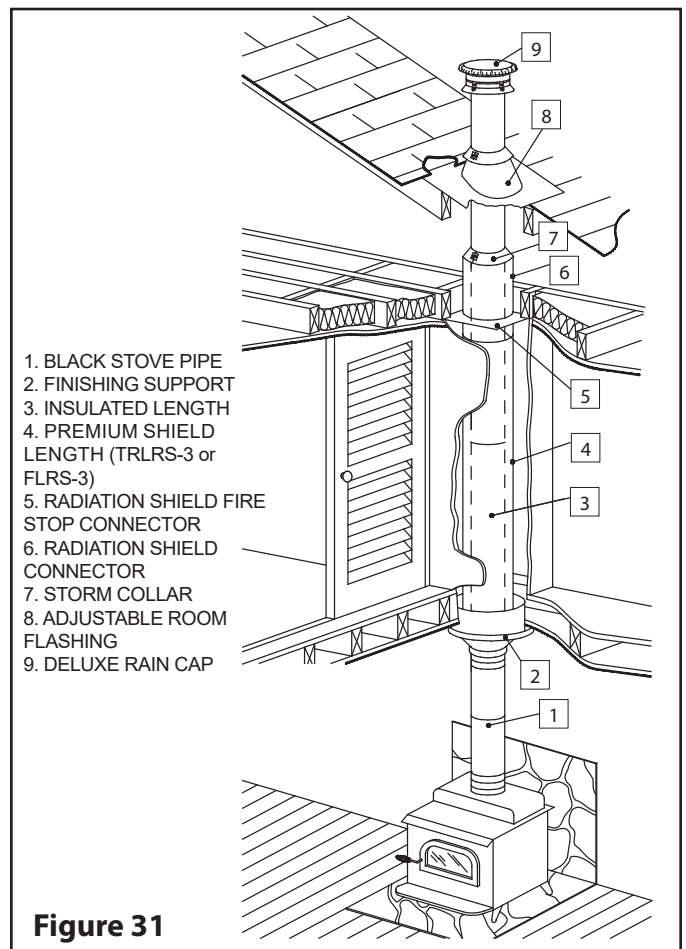

Figure 31
Step 5B. **FOR ENCLOSED INSTALLATION ON WOOD OR COAL BURNING APPLIANCE (6", 7", 8" dia. only),** proceed according to the steps below and see Figure 31